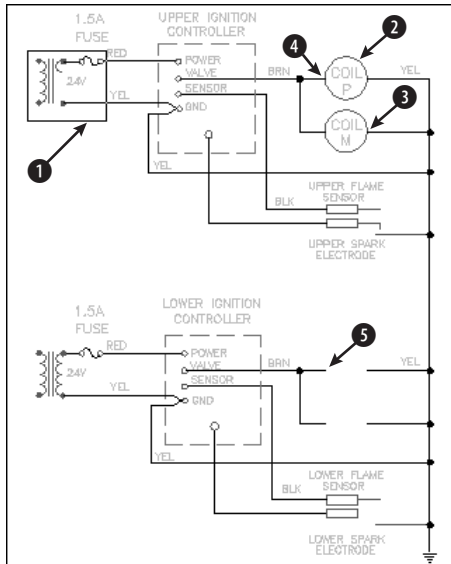

Figure 9-5: The electrical schematic
3. Use ZOOM Window to zoom into the area of the drawing marked ❶ in Figure 9-5. This shows a 24-volt transformer.
6. Pick the circle at ② in Figure 9-5 (which shows the entire schematic section). Note the grips. You also want to select the text inside the circles, but it's hard to see because of the grips. Press Esc to remove the grips.
7. Choose Copy Object from the Modify toolbar. Now select the circle at ② in Figure 9-5 again. This time no grips obscure the text. Separately pick both lines of text inside the circle.
8. Continuing to select objects to copy, select the circle at ③ in Figure 9-5. Also select the two lines of text inside the circle. Right-click to end the Select objects: prompt.
9. At the Specify base point or displacement, or [Multiple]: prompt, use the Endpoint object snap to pick point ④ in Figure 9-5. At the Specify second point of displacement or <use first point as displacement>: prompt, use the Endpoint object snap to pick point ⑤ in Figure 9-5. AutoCAD copies the two circles with the text.